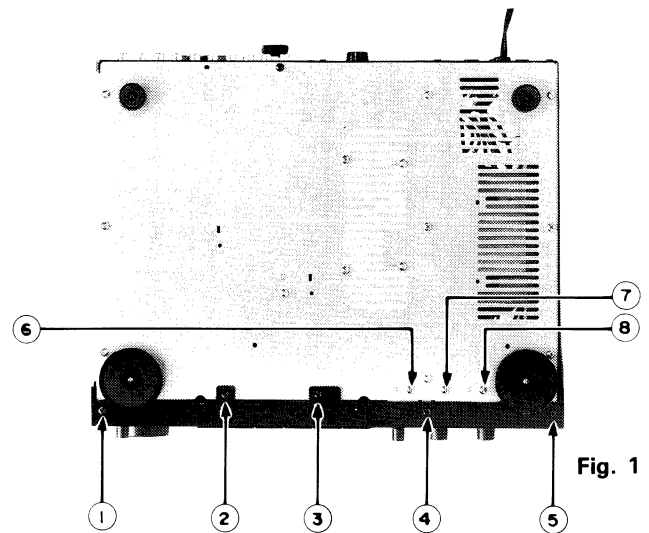

Fig. 1
2. Remove five screws ① through ⑤ securing the front panel and three screws ⑥ through ⑧ securing from the bottom plate. (See fig.1.)
(3) Removing the Main Volume